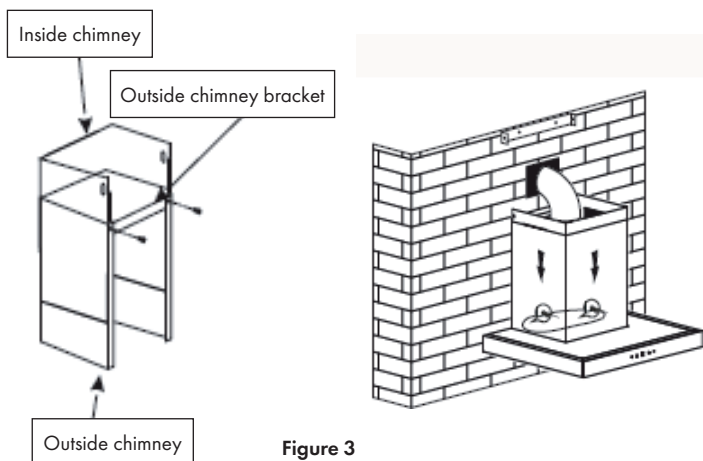

Figure 3
2. Install the V-flaps in the outlet, and fix the expansion pipe with cable tie on the outlet. Then hang the hood on to the hook (see figure 3).
Afterwards, install chimneys on the cooker hood. Lay the expansion pipe to the wall outlet. Fix the expansion pipe with the cable tie on the wall-outlet (see figure 3).
- Adjust the height of the inside chimney to the position of the inside chimney bracket and fix on it by 2 screws (ST 4*8 mm). After adjusting the position, fix the body with safety screw (see figure 3 and 4).